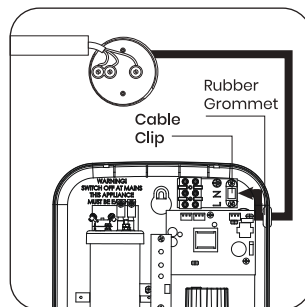

Fig. 3
1. Poke the electrical cable through rubber grommet by cutting a hole at the rubber grommet and lead the cable to cable clip **(Fig. 3)**.